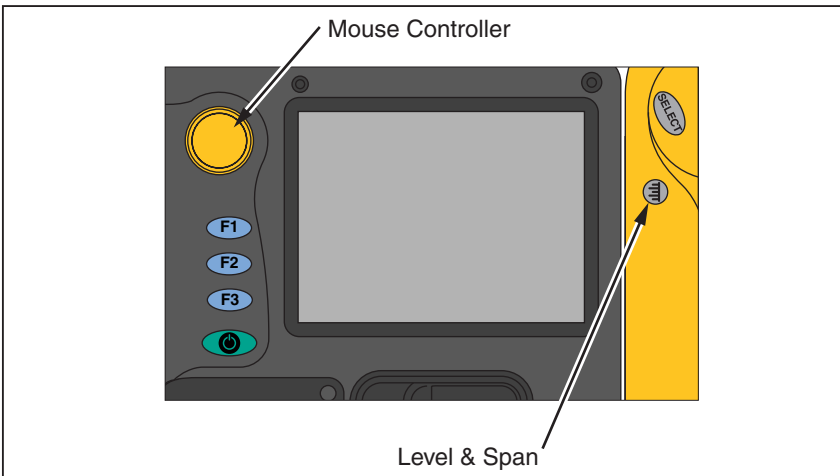

Figure 1-7. Setting the Fusion Blend Level
2. While continuing to press , use the mouse controller shown in Figure 1-7 to slide the IR Fusion blend level bar in the dialog box to the desired setting.